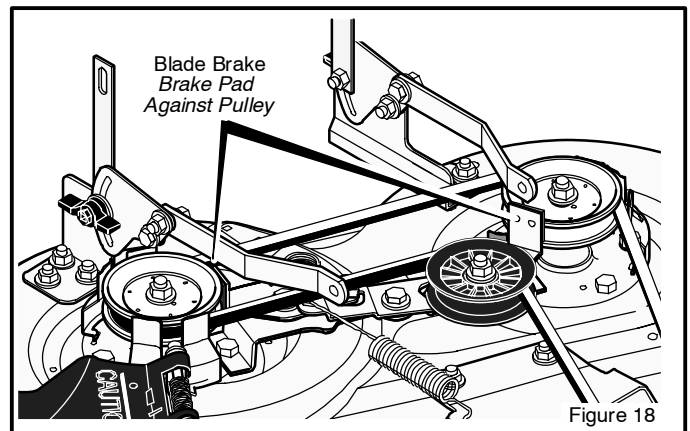

Figure 18
8. Move the **blade rotation control** to the **DISENGAGE position**. Stop the engine. Disconnect the wire from the spark plug. Check the operation of the **blade brake**. Rotate the pulleys with your hand. Make sure the **brake pads** are pressed tightly against the pulleys (Figure 18).